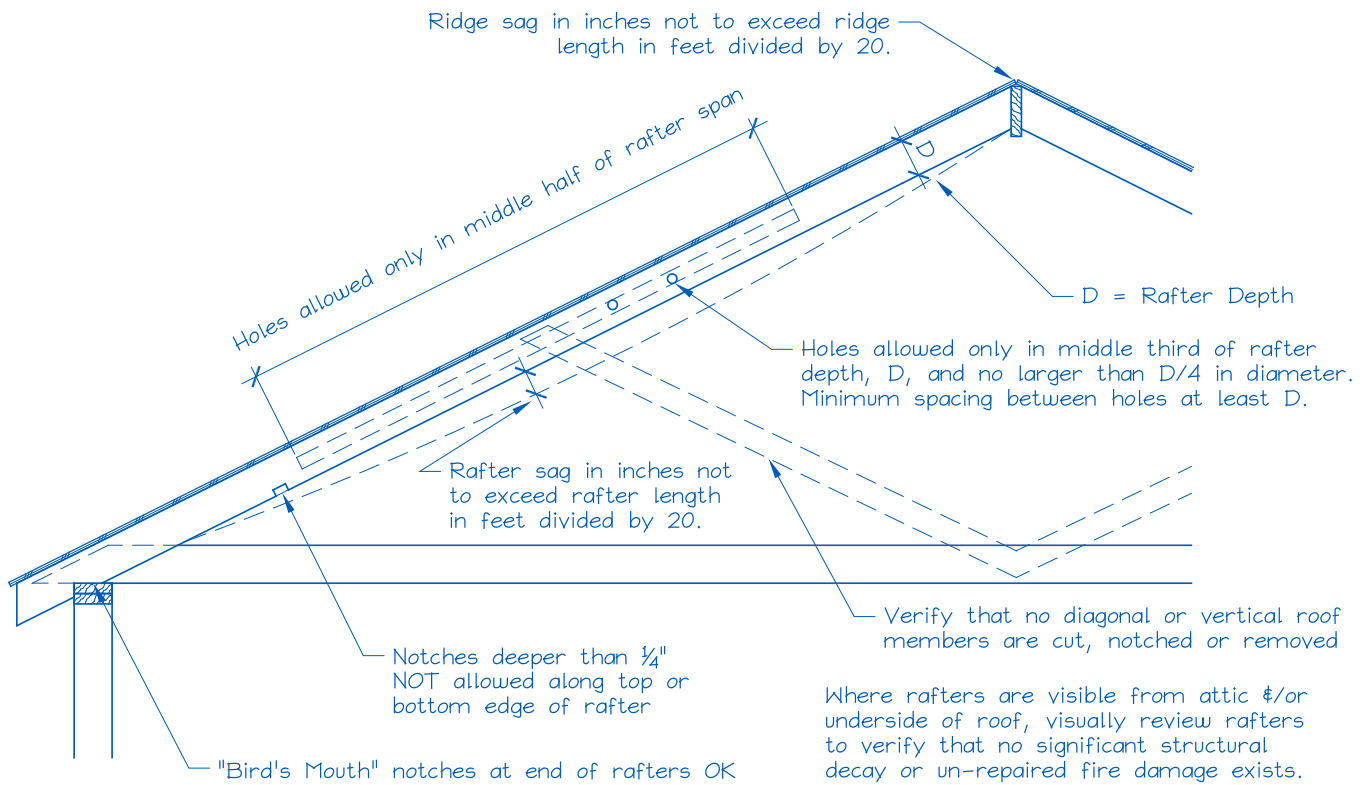

Figure 1. Roof Visual Structural Review (Contractor's Site Audit) of Existing Conditions.
- 2) Does the roof structure appear structurally sound, without signs of alterations or significant structural deterioration or sagging, as illustrated in Figure 1? ☐ Y ☐ N